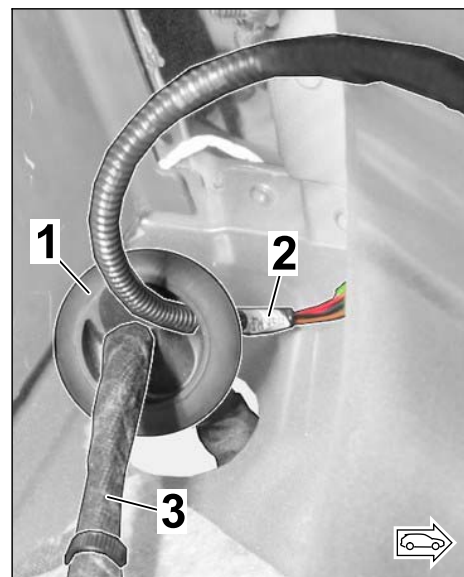

Figure 36
- Guide the new branch for the exhaust flap (left/right) through the neck of the grommet (see also 3.3.6) **OR** through another hole in the grommet collar (⇒ *Figure 36*) **CAREFULLY** to the underside of the grommet.